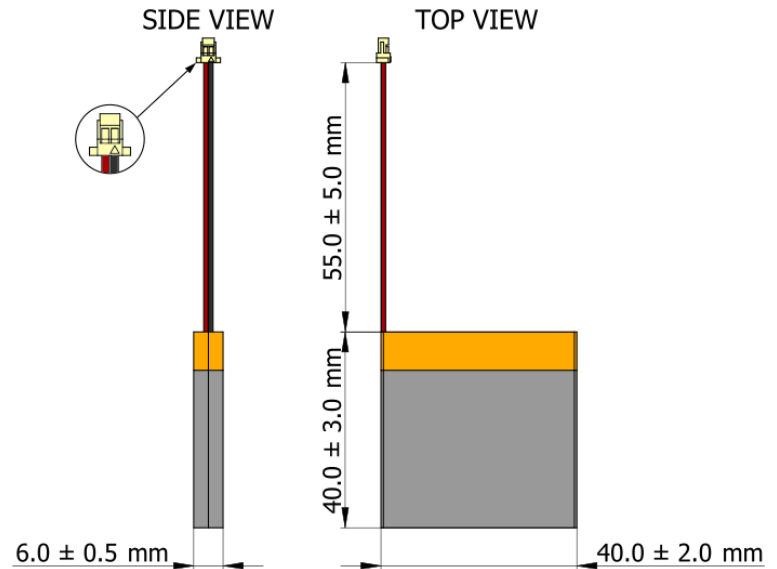

Figure 1: 1100mAh Battery Drawing & Dimensions
1.1 Outline Dimensions: See attached drawing, Figure 1, for dimensions.